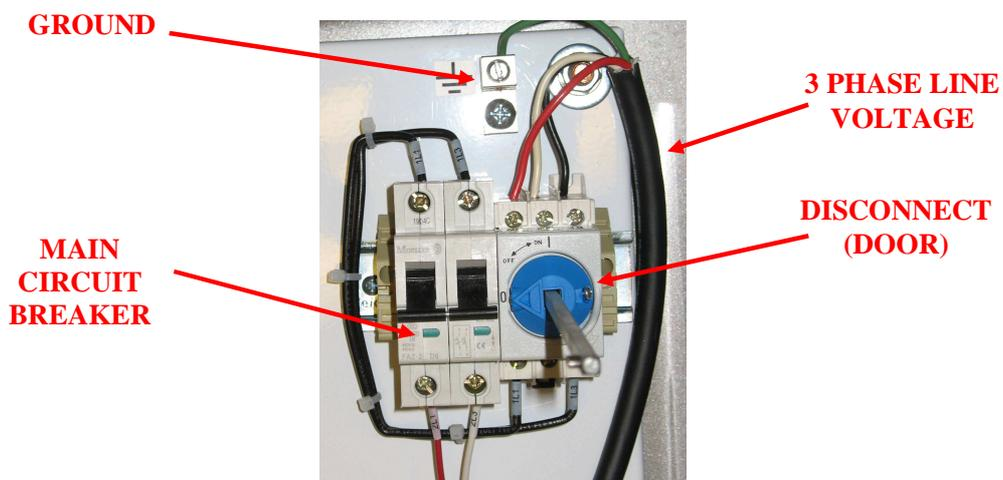

Figure 5 Supply power connections in a 460V Pulse Panel
Panels configured for 460V single-phase service have an integrated disconnect switch on the panel door. The power disconnect has four terminals that are required to be wired: line 1 (L1), line 2 (L2), line 3 (L3), and ground (G). A minimum of 14 gauge wire should be used when wiring to the terminals. The 460V circuit is protected by a 6A or 10A circuit breaker depending on *Pulse~Pure* size, and is located between the disconnect switch and the primary connections on the transformer. Figure 5 illustrates a correctly wired 460V panel. The three power legs are wired to the top side of the disconnect switch and the ground wire is connected to the ground lug located above the disconnect.